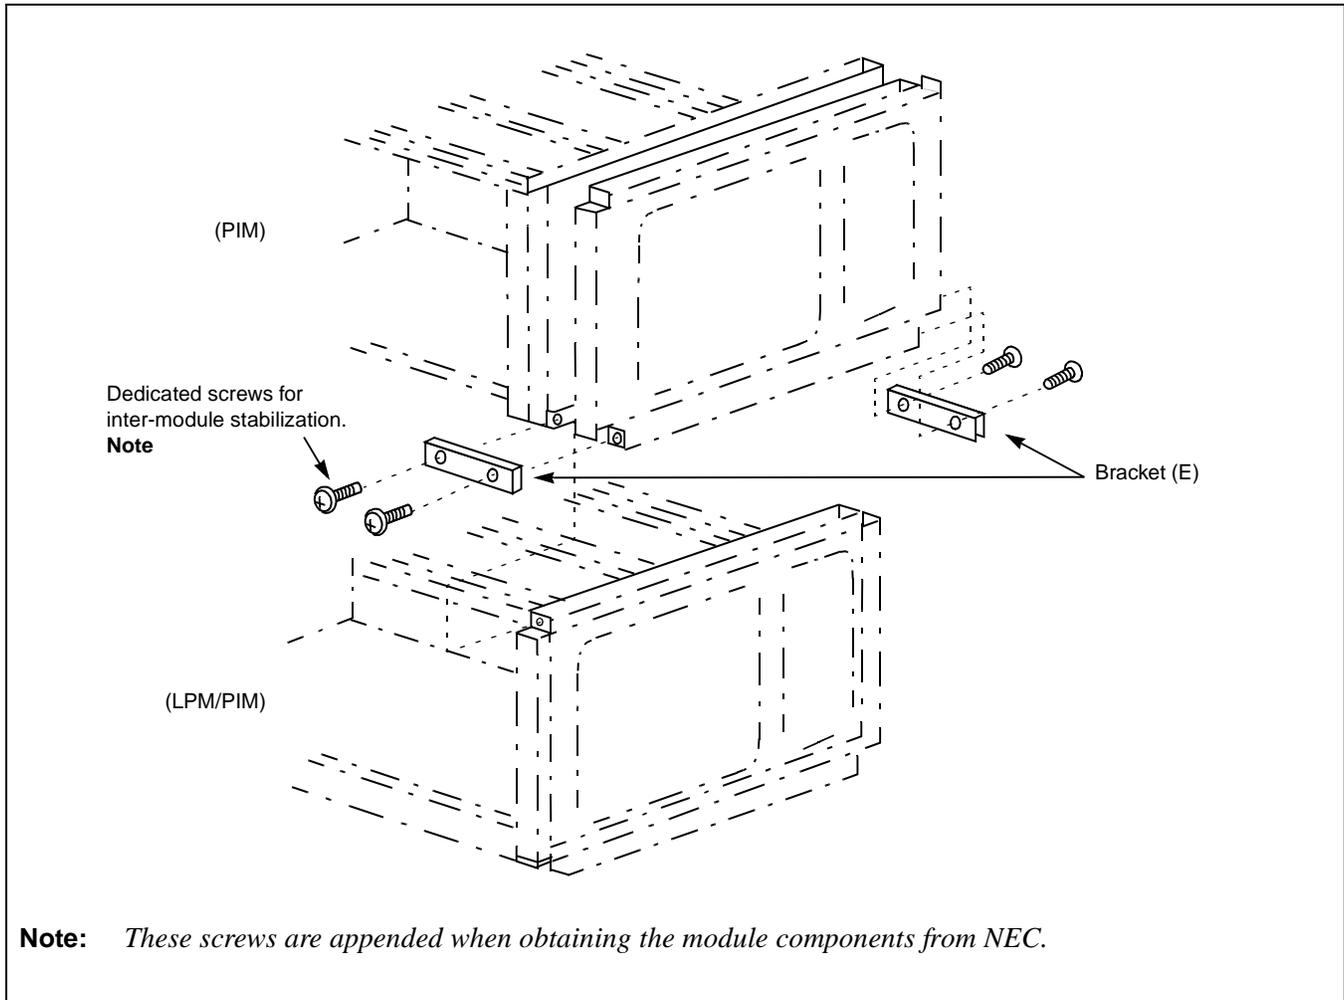

Figure 7-13 How to Attach Inter-frame Brackets
STEP 1: Referring to Figure 7-13, fix the brackets (E) between the LPM and PIM.
STEP 2: Referring to Figure 7-13, fix the brackets (A) with the four screws.